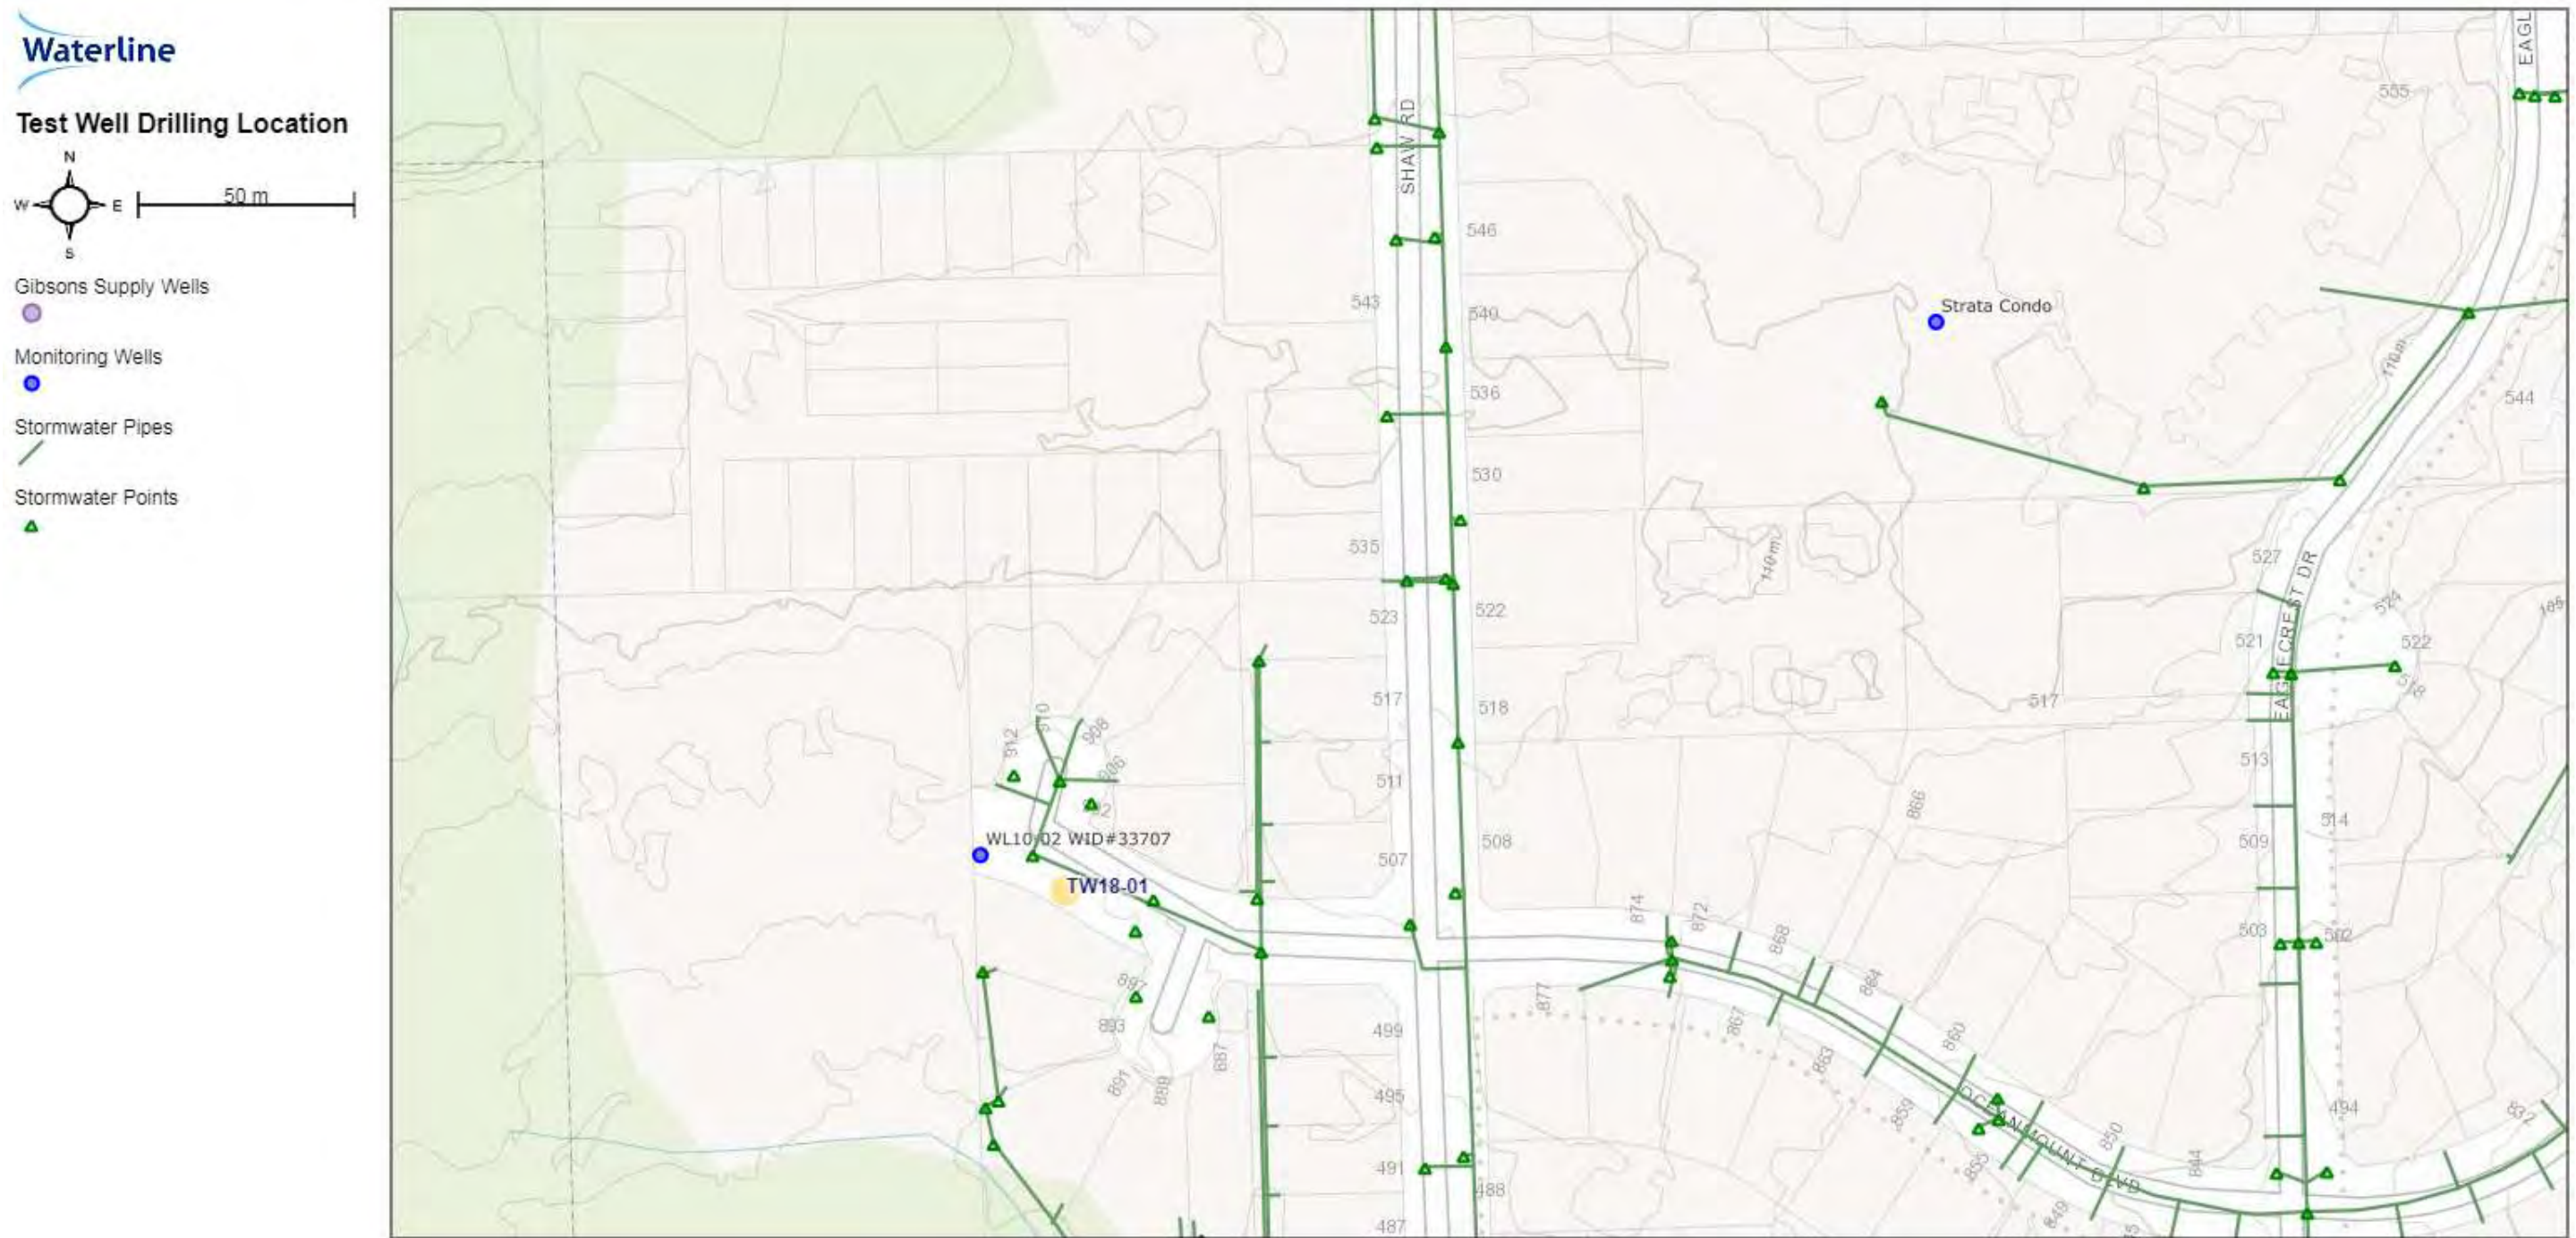

Figure 3: Test Well (Optional) Drilling Location (Oceanmount Blvd)
8. The water produced during the development task should be diverted to the nearest stormwater outfall point (Figure 3). Sediment from the development water should be removed prior to entering the storm drain outlet. This could be achieved using a settling tank (e.g. roll off bin etc.) and pumping the water off the top of the tank. Also, sediments pads (e.g. hay bails etc.) could be laid near the discharge point as a second approach to filtering the water.